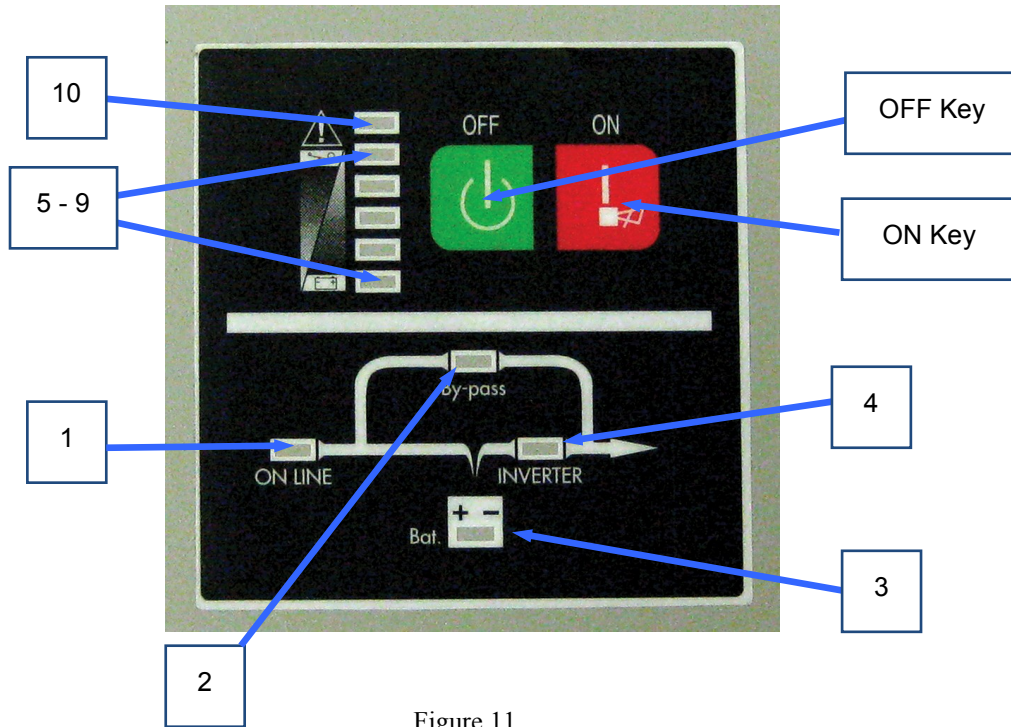

Figure 11
Refer to Figure 11 for descriptions of the Front Panel display's buttons and indicators.
- 8.1.3.2. The Processor perform a series of checks (These checks will be indicated by the display panels (see Figure 11) cycling through their LED's).